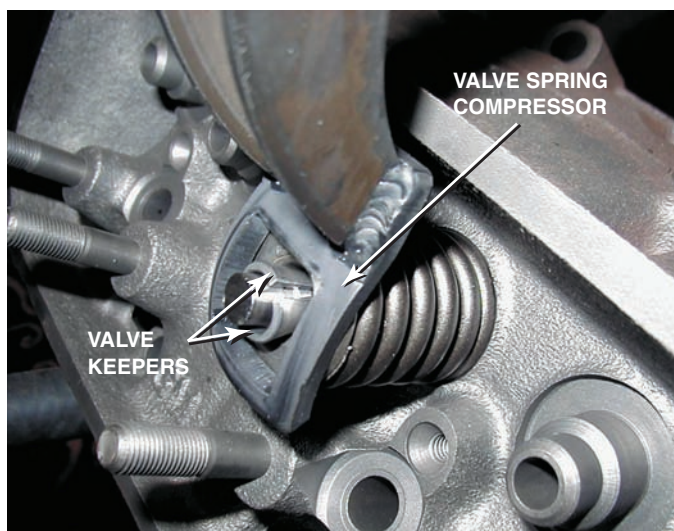

FIGURE 24-17 A valve spring compressor is used to compress the valve spring before removing the keepers (locks).
- STEP 2** Using a valve spring compressor, compress the valve spring far enough to expose the keepers. ● **SEE FIGURE 24-17.**